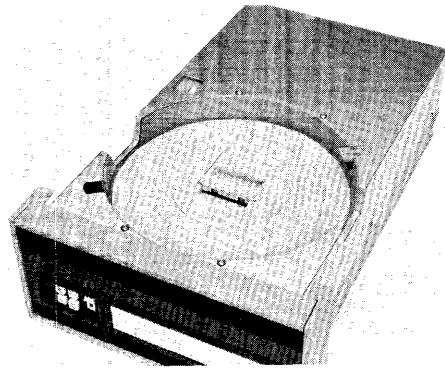
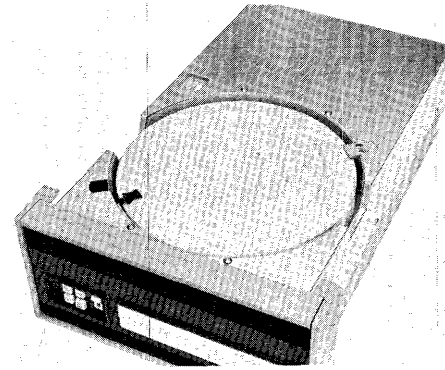

Figure 3-8. Cartridge Loading, Top Load Models
Figure 3-9. Cartridge Loading, Top Load Models
- (6) Lower the cartridge handle into the handle recess and allow the release/lock to return (Figure 3-8). This will cause the cartridge hub to engage the spindle clutch.
- (7) Invert the cartridge cover (removed in Step 4) and place it over the cartridge, aligning the cover edge over the ridge along the cartridge rim.
- (8) Position the cartridge lock arm over the cartridge cover (allowing the arm to cam upward) until the arm comes to rest against the stop provided by the side of the recesses in the adapter bowl (Figure 3-9).
- (9) Push the disk drive into the cabinet until the catches engage.
- (4) Lift the cartridge cover out of the drive (Figure 3-8) and invert it.